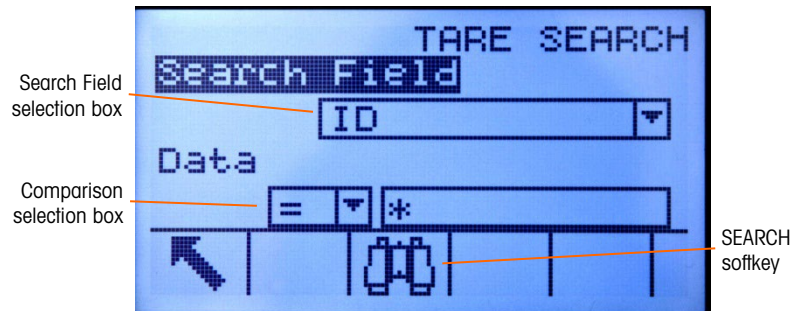

Figure 2-22: Search Screen (Tare Table)
7. Press the VIEW TABLE softkey  to select a sub-set of records from the table. The Search Screen for the selected report type displays (see Figure 2-22).